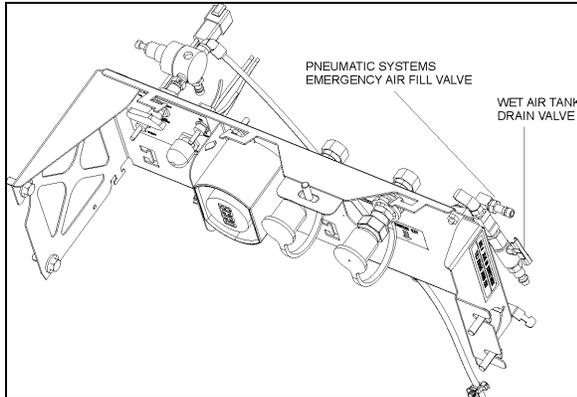

FIGURE 55: REAR VALVE LOCATION 12162
A remote valve located in engine compartment and accessible through engine R.H. side door is used to **purge daily** (Fig. 55).
**The rear valve** is located in engine compartment and accessible from engine R.H. side door (Fig. 55).